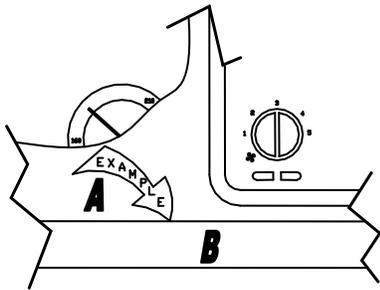
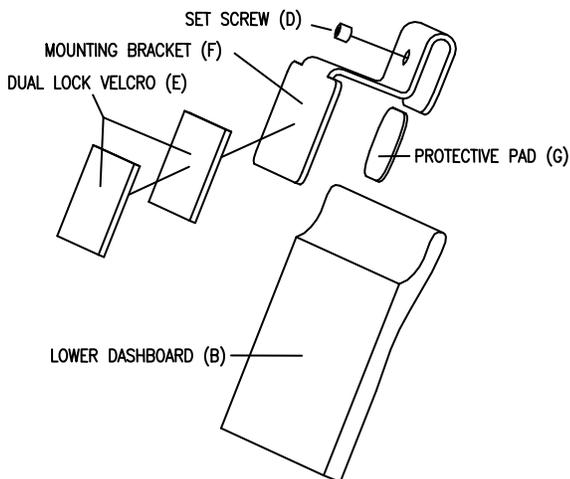

Figure 1
Figure 2 Mounting bracket Horizontal
1. Find a convenient location on the dash board. Using a small screw driver carefully separate face panel (A) from lower dashboard (B) (fig 1). If screws are used to secure lower dash board (B) they should be removed.
2. Peel off backing on Dual Lock Velcro (E). Apply one strip to Mounting Bracket (F) and one to back of Hand Held Control (not pictured).
3. Peel off backing on Protective Pad (G) and apply to channel of Mounting Bracket (F) (fig 2).
4. Insert control Mounting Bracket (F) over top edge of lower dashboard (B) (fig 2). Using a 3/32 allen wrench, Set Screw (D) can be inserted into threaded hole of Mounting Bracket (F). Tighten until bracket becomes stable (fig 2). For a more permanent application a Self Tapping Screw (not displayed) has been included.